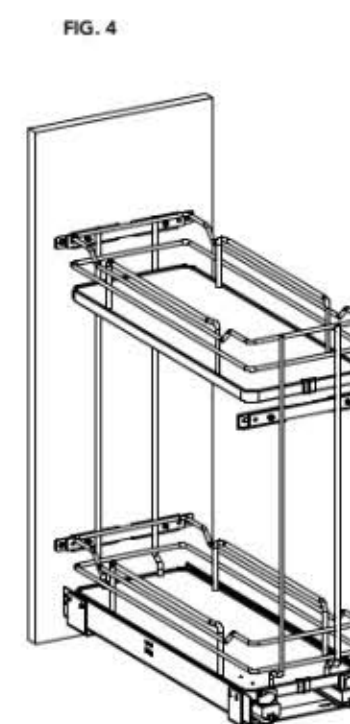

FIG. 4
- 3) Using (4) #6x1/2" flat head screws, attach the door to the pullout unit.
- 4) If the door needs to be adjusted sideways, loosen the (4) lock nuts and adjust the door (Fig. 4).